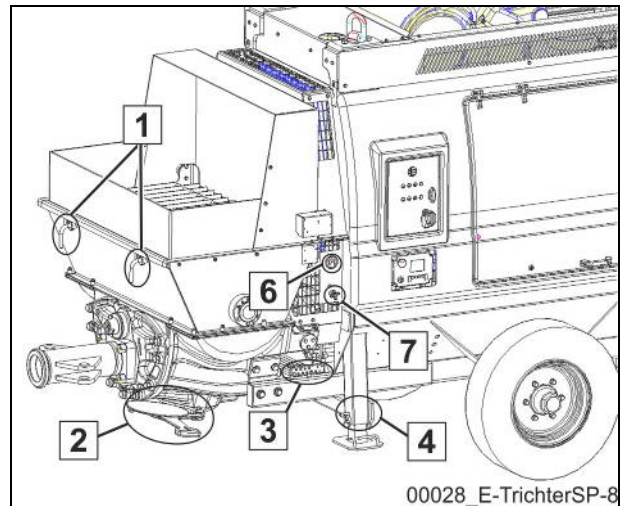

Fig. 2
- Set the maximum delivery rate (stroke rate) of the concrete pump and open the shut-off valve (7) (Fig. 2).